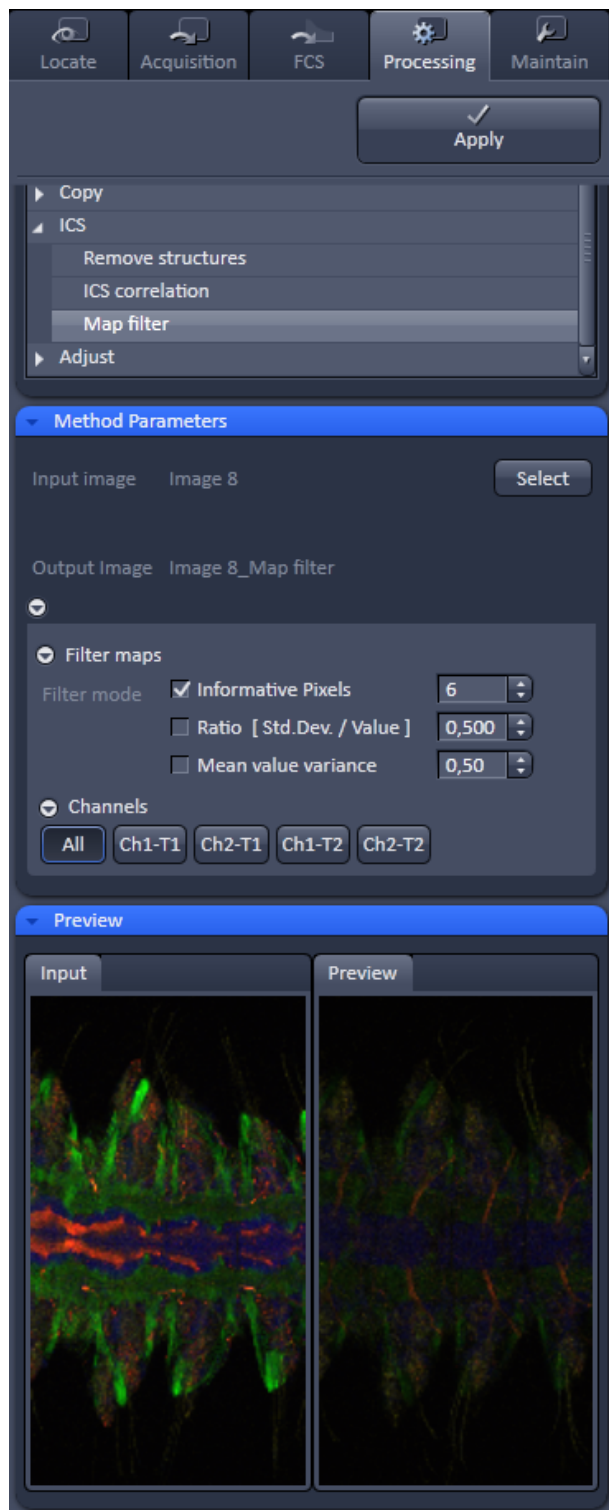

Fig. 434 Processing – ICS Map filter
- Activate **Map filter** in the **ICS** tool. The **Map filter** menu will appear (Fig. 434).